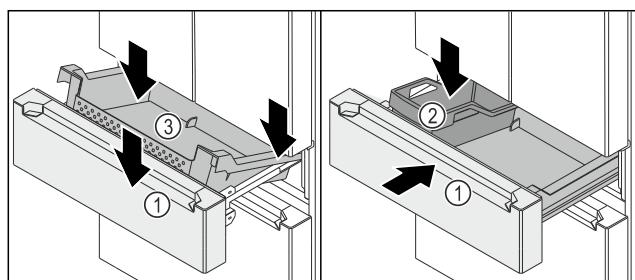

Fig. 151
- Telescopic unit Fig. 151 (1) is pulled out.
- ▶ Place the container Fig. 151 (3) at the rear on the rails on the right and left.
- ▶ Lower the front of the container Fig. 151 (3) so that the container Fig. 151 (3) encloses the rails on the right and left.
- ▶ Insert the FlexBox Fig. 151 (2).
- ▶ Push in the telescopic unit Fig. 151 (1).